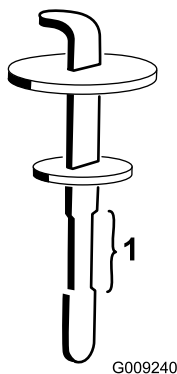

Figure 83
4. Remove the dipstick from the filler neck and wipe it with a clean rag. Insert the dipstick into the filler neck; then remove it and check the fluid level. The fluid level should be within the safe operating range on the dipstick (Figure 83).